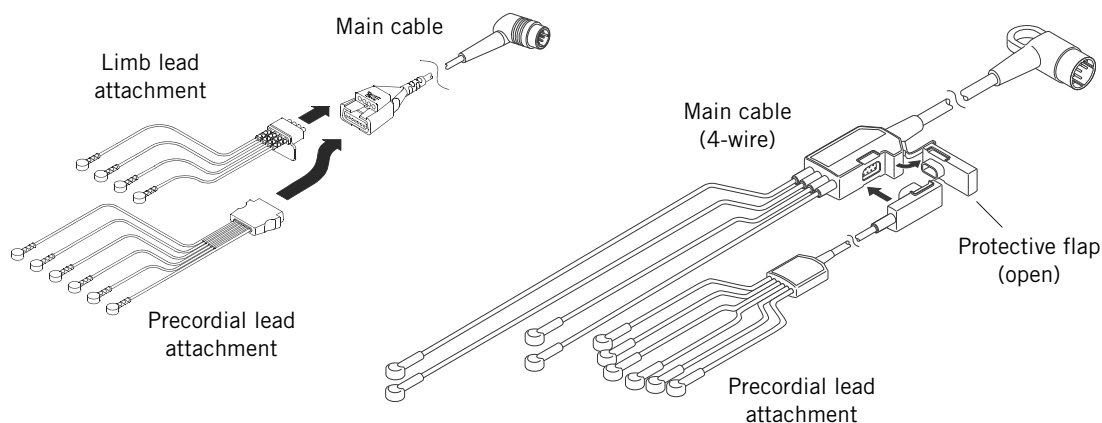

Figure 4-6 12-Lead ECG Cables
2. Insert the lead attachments into the main cable as shown in Figure 4-6.